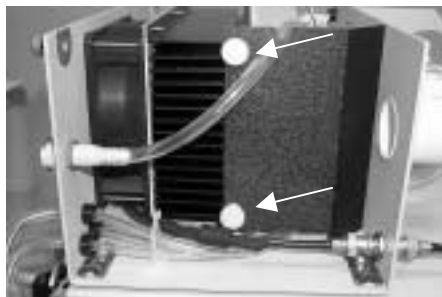

Figure 10
10. Remove the cover by removing the two nylon screws. See Fig. 10.